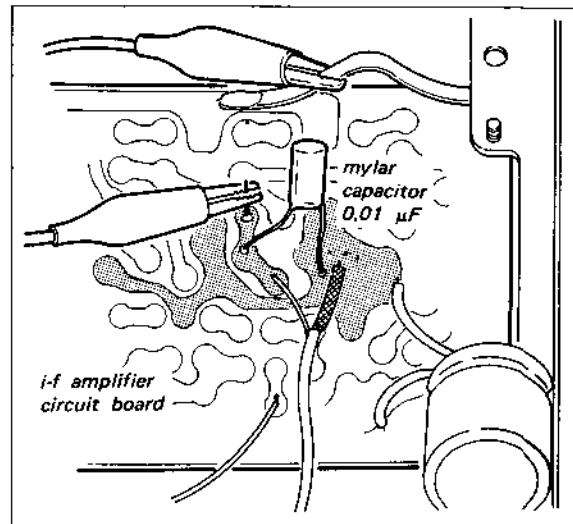

Fig. 3-10 Discriminator output connection
2. Solder a 0.01- μ F mylar capacitor across C36 on the i-f amplifier circuit board, as shown in Fig. 3-10.
3. Connect the input cable of the oscilloscope across the mylar capacitor with alligator clips, as shown in Fig. 3-10.
- Solder a 0.01- μ F mylar capacitor across C36 on the i-f amplifier circuit board, as shown in Fig. 3-10 on page 15.
- Connect the input cable of the oscilloscope across the mylar capacitor with alligator clips as shown in Fig. 3-10.